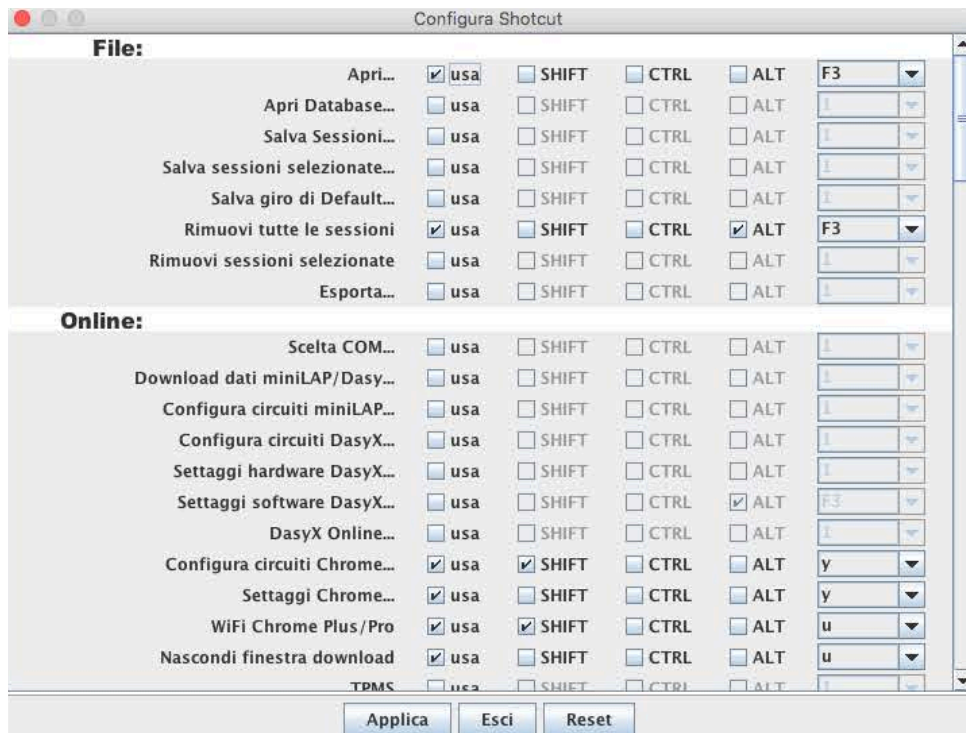

Fig. 26 –shortcut window
- **Configure shortcut:** This function allows you to open the window shown in figure 26; it allows you to customize the shortcut of Danas functions. For every function, a menu allows you to choose if you want to configure a shortcut and the key combination that you want to use to activate that particular function. The system will notify you if you try to use the same shortcut for more than one function (option denied).